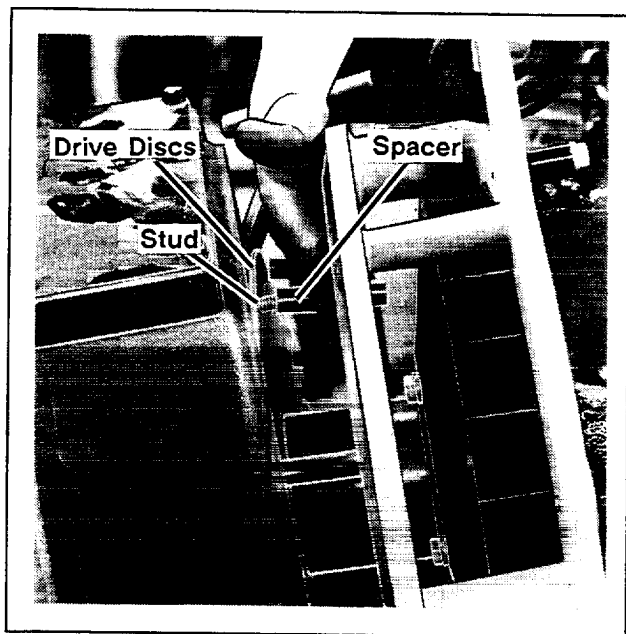

Figure 8. Installing Spacers
7. Attach hoist hooks to end bracket and adapter eye. Raise generator assembly and align studs with drive discs by turning the fly-wheel. Move generator as necessary to work drive discs over studs. When drive discs are about 1 in. (25 mm) over studs, install spacers. See Figure 8.